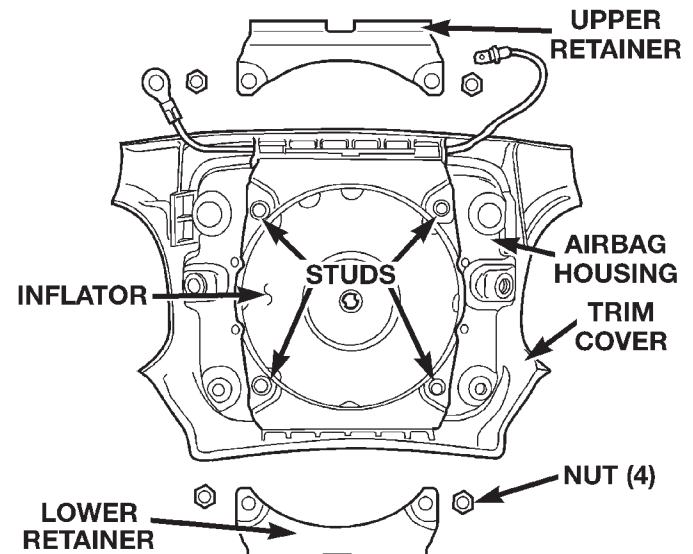

Fig. 9 Airbag Trim Cover Retainers Remove/Install
(4) Remove the upper and lower trim cover retainers from the airbag housing studs (Fig. 9).